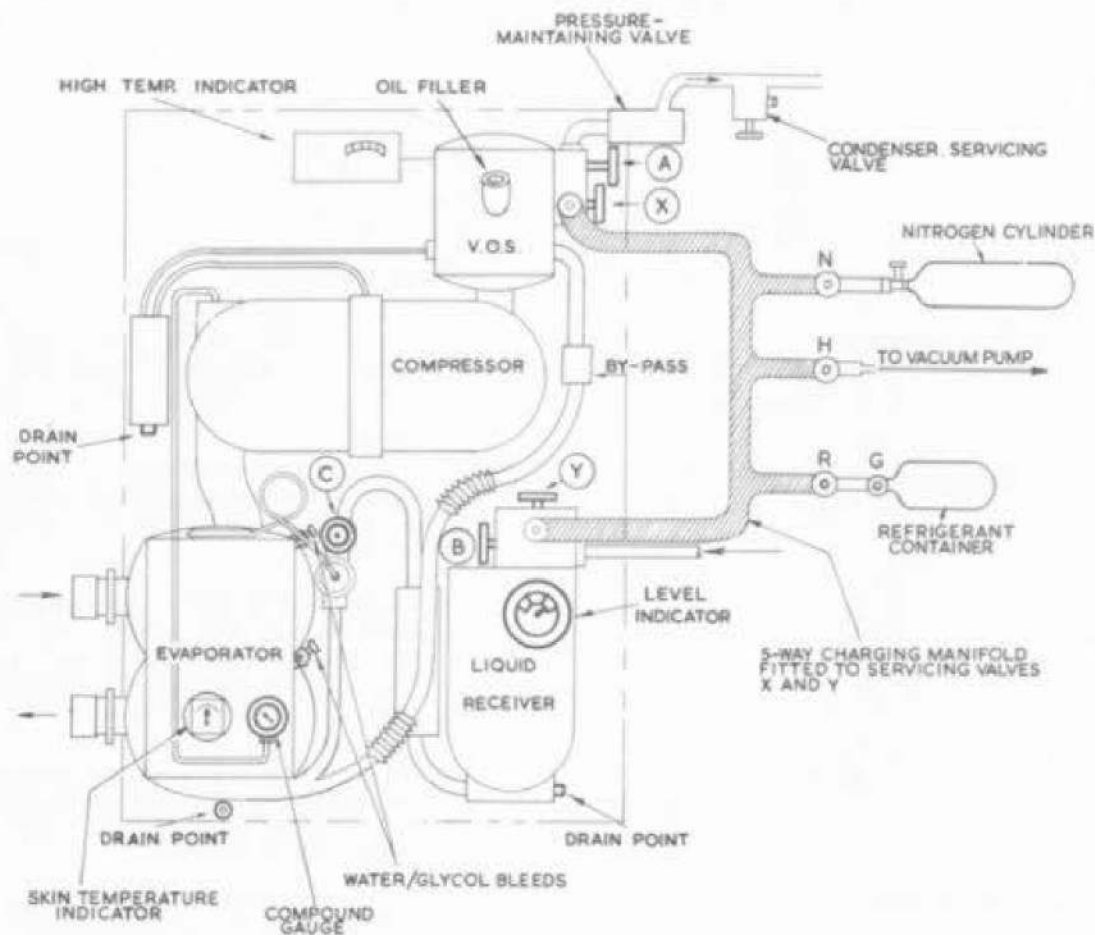

Fig.8 Cooling pack servicing diagram
- (1) Remove the servicing plugs from valves X and Y. Open these valves.
- ◀ (2) Fit a five-way manifold (fig.8).
- (3) Connect a vacuum pump to valve H.
- (4) Connect a nitrogen supply to valve N.
- (5) Ensure valves R and N are closed then open valve H and evacuate the system to 8 mm Hg. absolute. Close valve H and disconnect the vacuum pump. Stop the pump.
- (6) Open valve N, gradually, and allow the nitrogen to fill the system. Close valve N when the pack gauge indicates approximately 20-25 p.s.i.g.
121. For this operation the electrical power supplies must be isolated from the pack by removing the appropriate fuses. Refer to fig.8 and 10 and proceed as follows:-